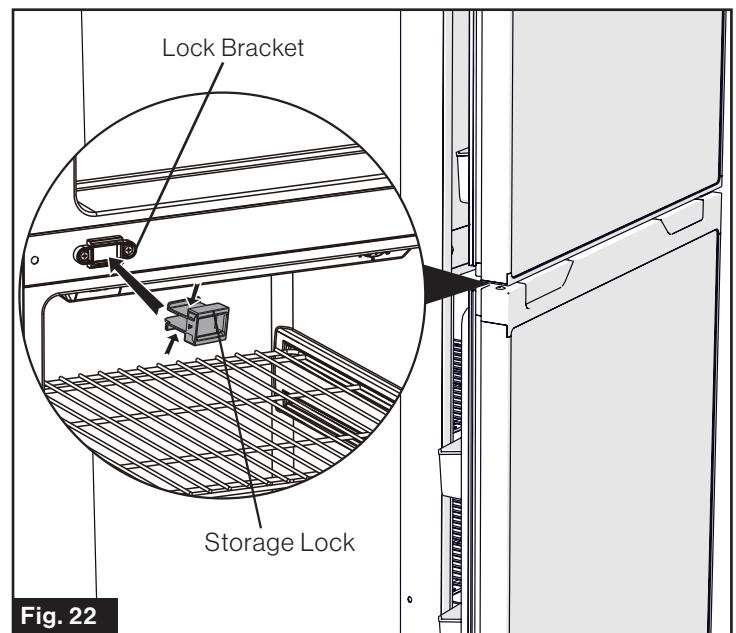

Fig. 22
2. Press both sides of the Storage Lock as per the arrows shown in Fig. 22 and pull to remove the Storage Lock.